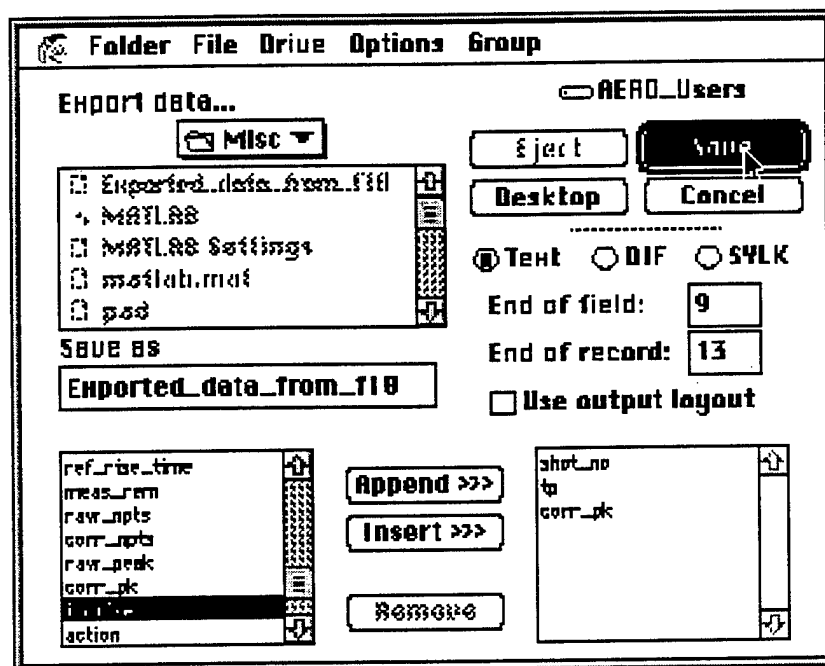

Figure 3.17: Dialog box after selecting shot number, test point, and corrected peak
5. Click on the appropriate field names displayed in the bottom left corner of the dialog box. For this example, select **shot\_no**, and click on the “Append” button. Next, click on **tp** and then “Append”. Finally, scroll down the list until you find **corr\_pk**, click on it to select it, and then click on the “Append” button once again. The dialog box should now look something like Figure 3.17.